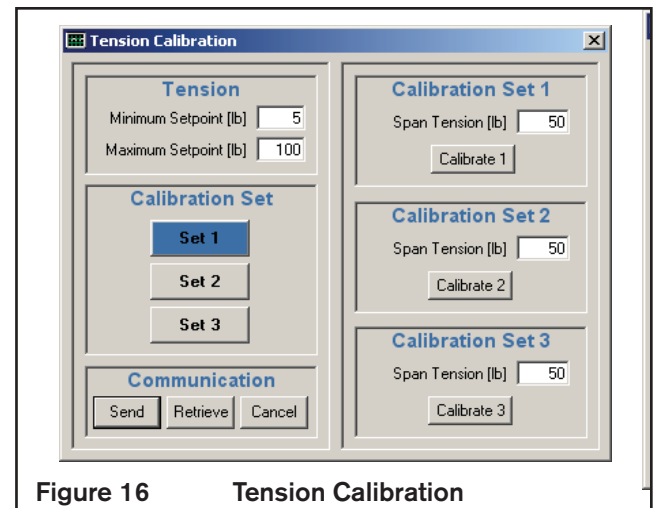

Figure 16 Tension Calibration
1. Press TENSION (See Figure 16).